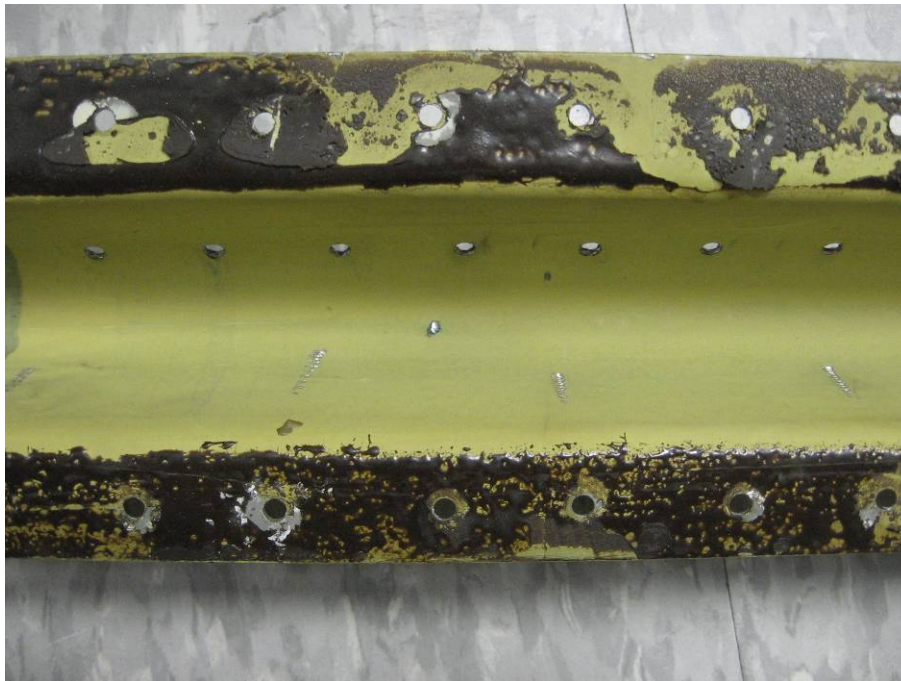

Figure 1
1. Score marks in the interior of the upper longerons caused by drilling operations. Bell Helicopter is not aware of any cracks or failures caused by these score marks. See Figure 1.